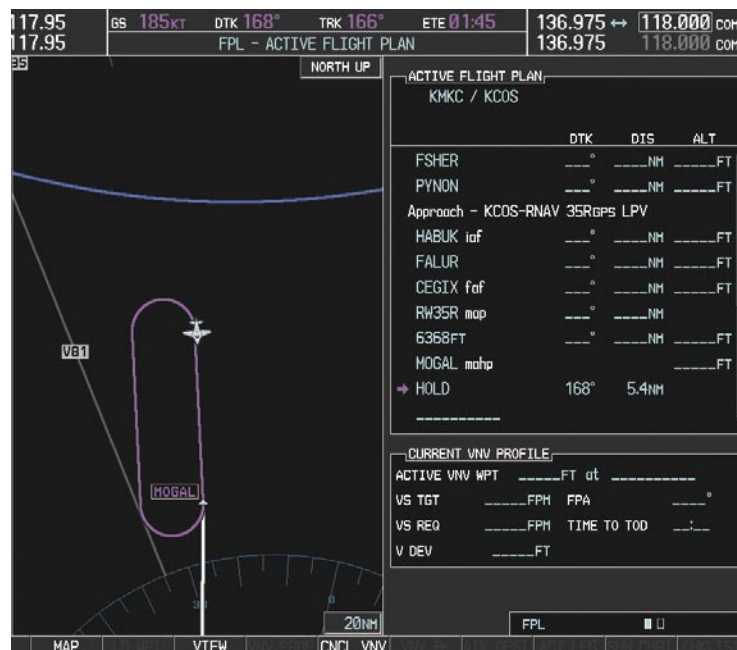

Figure 5-139 Hold Established
- 27) The aircraft maintains 10,000 feet while following the magenta line through the hold as in Figure 5-139.